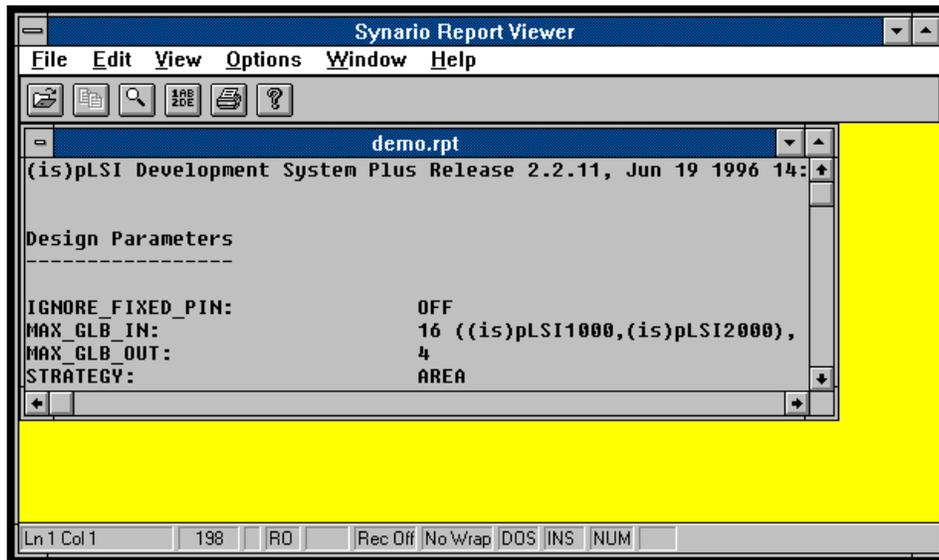

Figure 1-19. Design Statistics After Design Fitting
38. Double click on ISP Synario Fitter Report in the Processes list to see the statistics related to the fitting of your design (Figure 1-19).